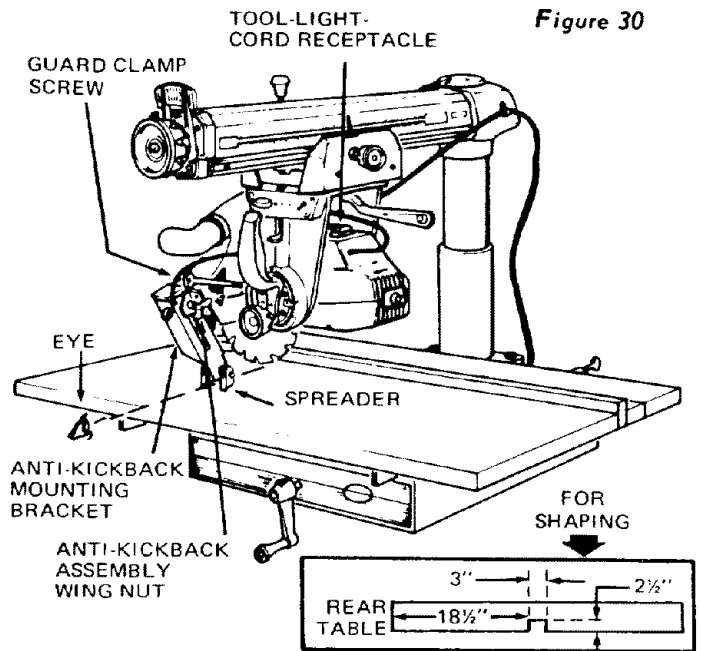

Figure 30
8. Reinstalling the Guard and Adjusting the Anti-Kickback and Spreader Assembly (Figure 30)
9. Preparing Rear Table for Shaping (Figure 30)
For use of a Molding Head Cutter (page 17) the rear table requires an opening for clearance of the motor end. Cut this opening as shown in figure 30 inset.